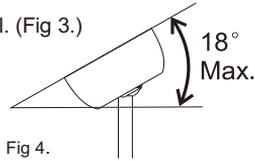

Fig 4.
3. Suitable for installations up to 18 Degrees of Pitch. (Fig 4.)